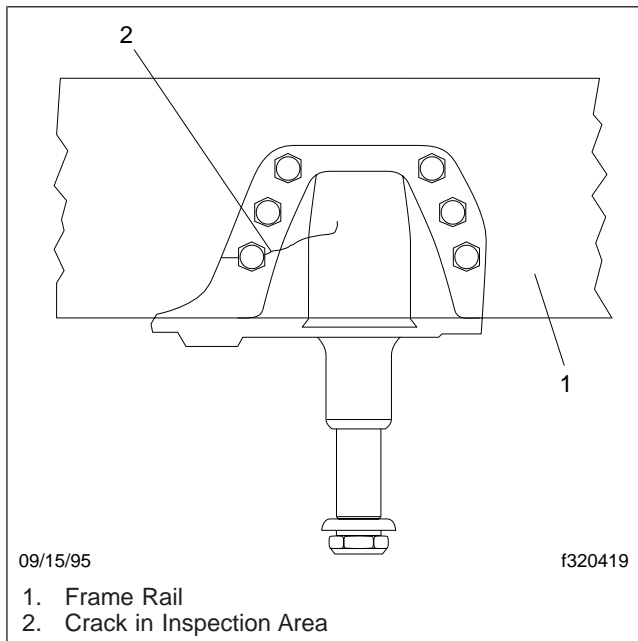

Fig. 14, Hendrickson RS Series Vertical Mounting Flange
2. Visually inspect each frame hanger for any evidence of cracks in the vertical mounting flange. See **Fig. 14**.